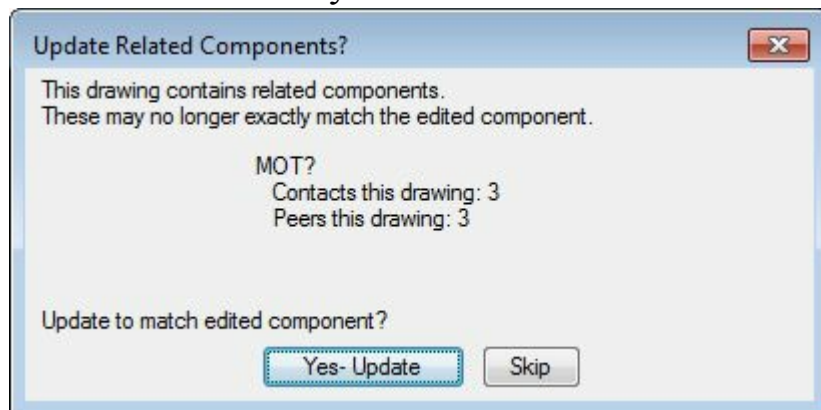

Figure-15. Update Related Components dialog box
- Select the target component. Some of my friends might get the **Update Related Components** dialog box; refer to Figure-15. Click on the **Yes-Update** button if you want to update all similar components in the drawing or choose the **Skip** button to keep others as they are.